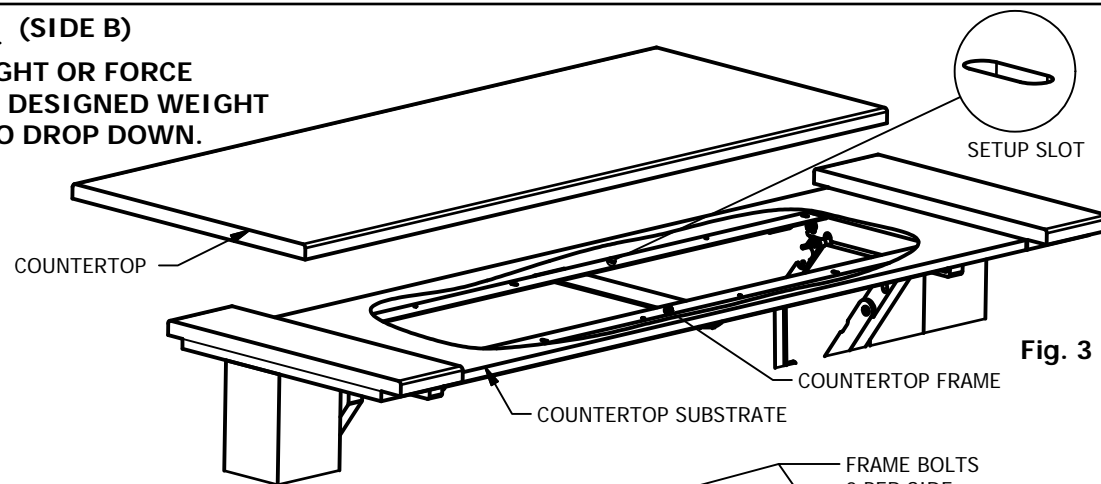

Fig. 3
-From underneath attach countertop substrate to countertop frame using #8 x 3/4, SS screws at the 6 setup slot locations. (Fig. 3)